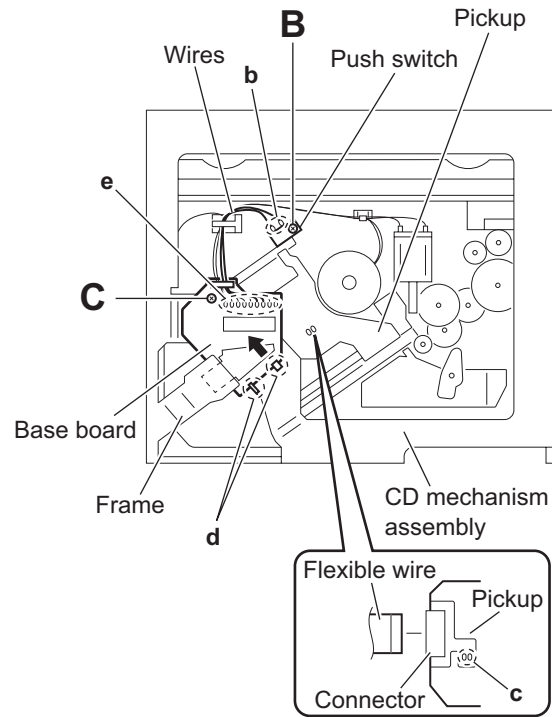

Fig.3
### 3.2.3 Removing the base board (See Figs.3 and 4)
Solder the short land **c** before the flexible wire is disconnected from the connector on the pickup. If the flexible wire is disconnected without applying solder, the pickup may be destroyed by static electricity. (See Fig.3.)
- (1) From the bottom side of the CD mechanism assembly, remove the screw **C** attaching the base board. (See Figs.3 and 4.)
- (2) Solder the short land **c** on the pickup. (See Fig.3.)
- (3) Disconnect the flexible wire from the connector on the pickup. (See Fig.3.)
- (4) Remove the base board from the joints **d** of the frame in the direction of the arrow. (See Figs.3 and 4.)
Remove the wires from the soldered sections **e** on the base board as required. (See Fig.3.)
When reattaching the base board, be sure to remove solder from the short land **c** after connecting the flexible wire. (See Fig.3.)